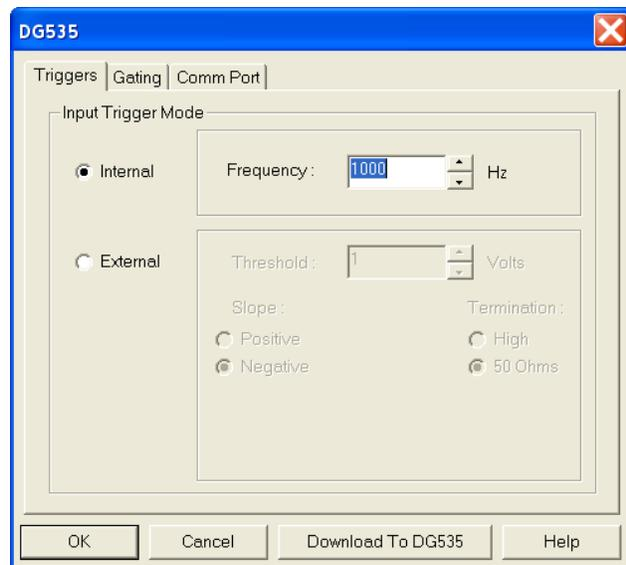

Figure 128. DG535/Triggers tab
8. Click on the **Triggers** tab (Figure 128).